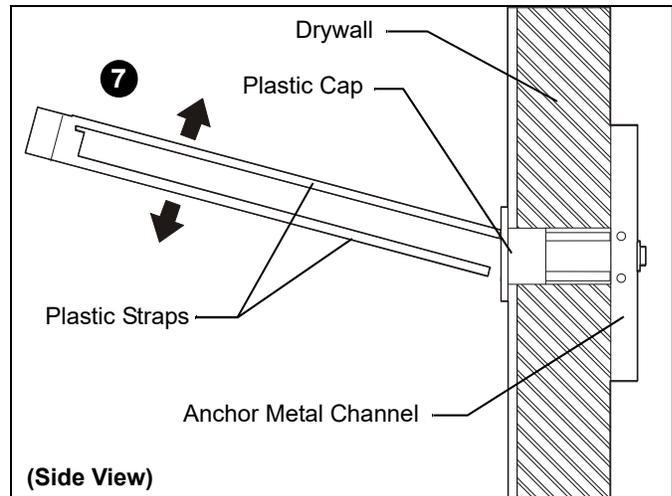

Figure 24
7. Snap off plastic straps on anchor at wall by pushing side to side, snapping off straps level with flange of plastic cap. (See Figure 24)